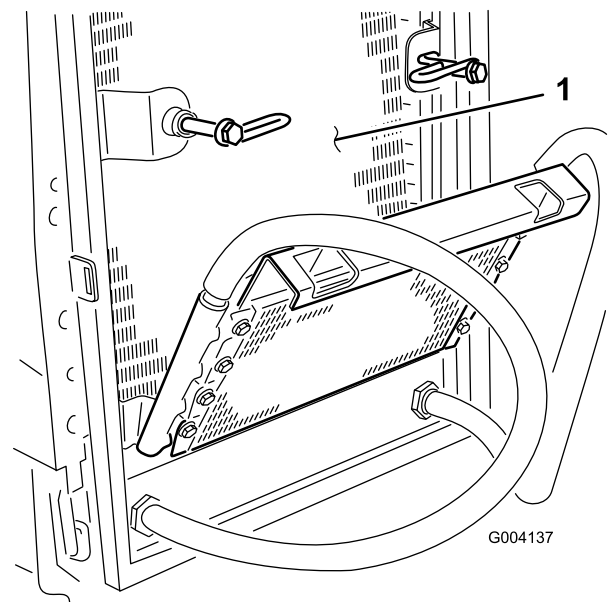

Figure 70
6. Thoroughly clean both sides of the oil cooler and the radiator (Figure 70) with compressed air.